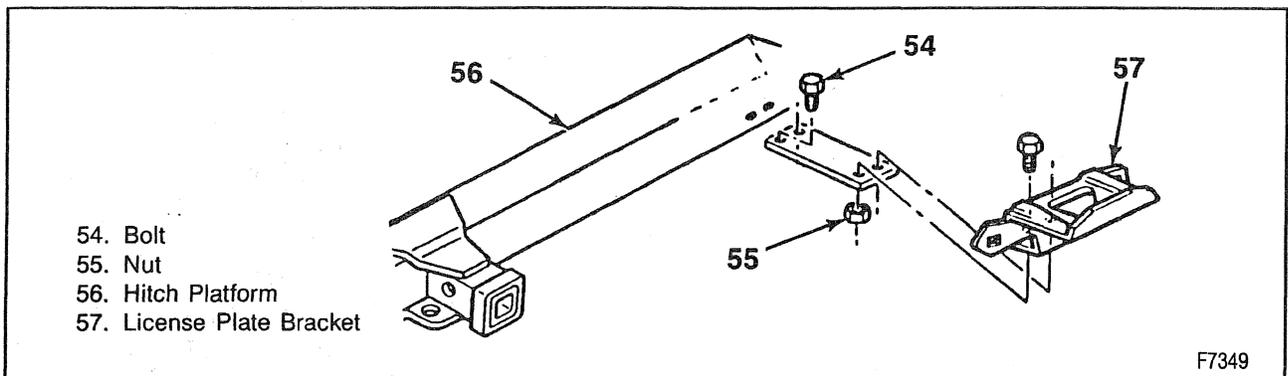

Figure 12—Hitch Platform License Plate Bracket
↔ Remove or Disconnect (Figures 12 and 13)
1. Bracket plate to hitch platform bolts and nuts (figure 12).
→← Install or Connect (Figures 12 and 13)